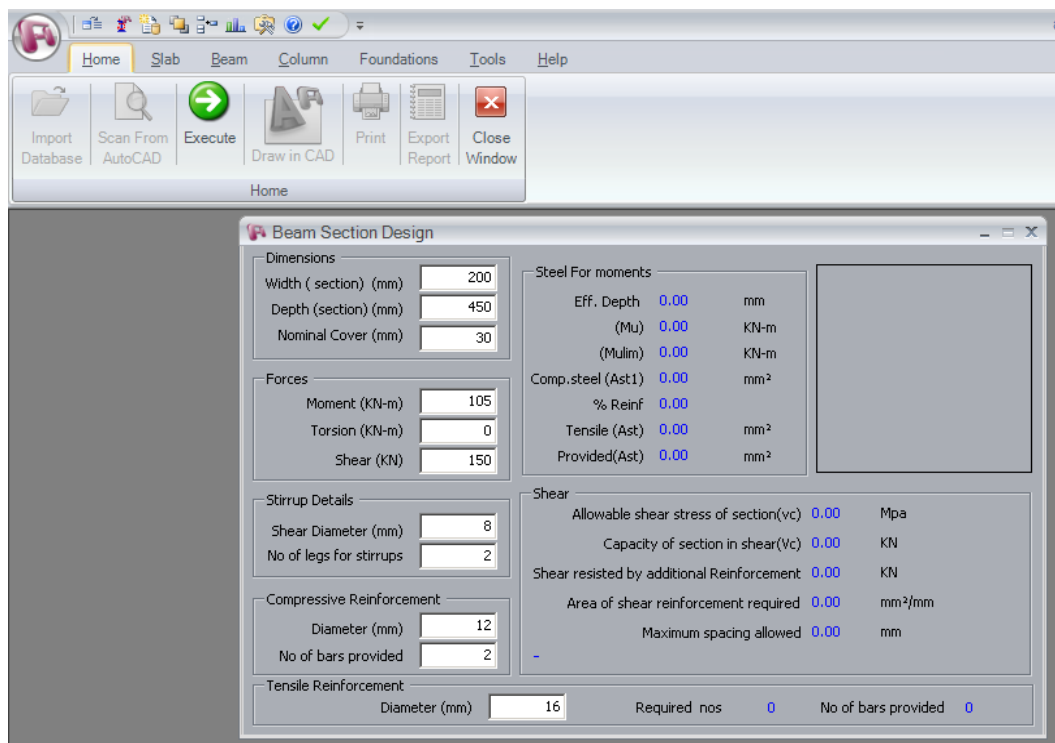

Fig 6.2.2
- User can set data in beam design grid (fig 6.2.2)